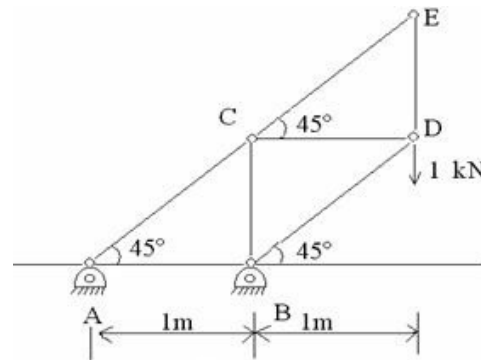

Figure 2
Q.2(b) A simple truss ABCDE is subjected to a vertical load 1 kN at joint D as shown in Figure 2. Determine the axial force acting through the members AC and AB. The truss is hinged at A and B. [5]